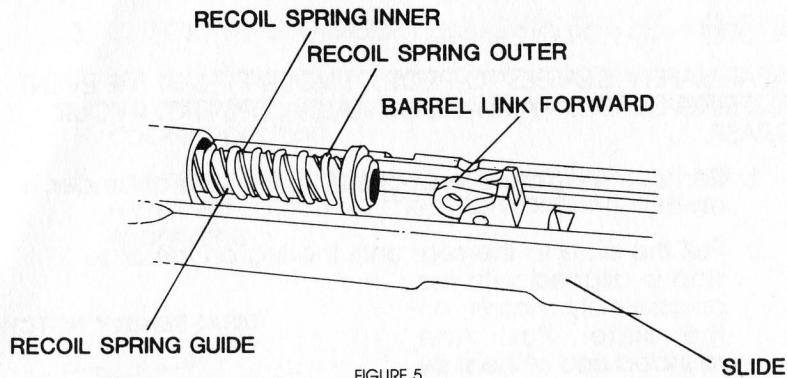

FIGURE 5
5. Hold the slide and barrel assembly upside down in your left hand with the muzzle toward you. Carefully pull the recoil plate slightly upward and to the right above the barrel link. Ease the recoil system out to the rear (away from you). (See figure 5)